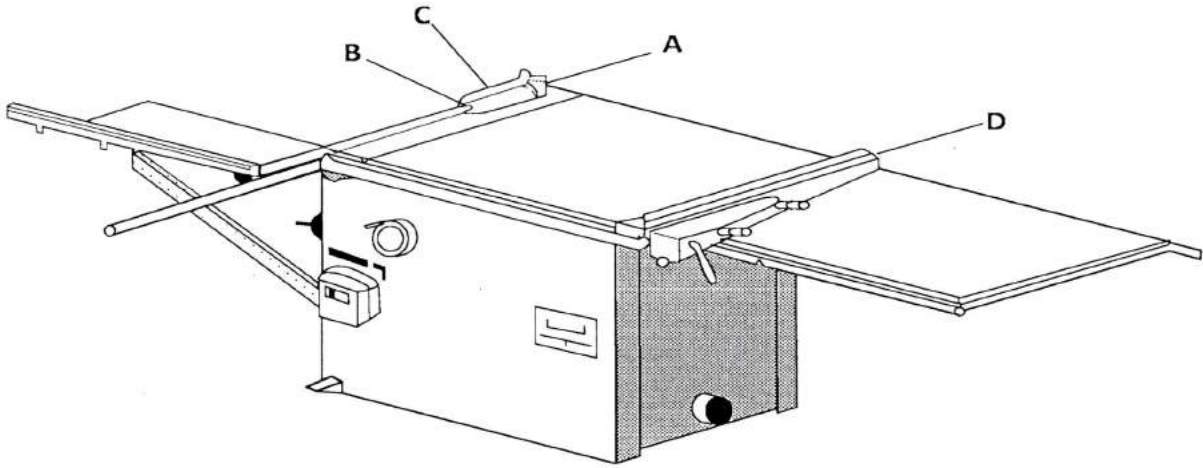

Figure 2
- (b) **Figure 2** shows a pictorial view of a circular saw.